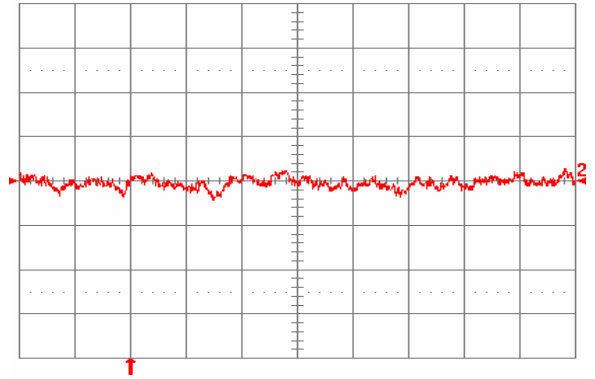

**Fig. 1.8V.14:** Test Setup for measuring input reflected ripple currents,  $i_c$  and  $i_s$ .
**Fig. 1.8V.1:** Available load current vs. ambient air temperature and airflow rates for SQ48T15018 converter with D height pins mounted vertically with  $V_{in} = 48\text{ V}$ , air flowing from pin 3 to pin 1, and maximum FET temperature  $\leq 120^\circ\text{C}$ .
**Fig. 1.8V.2:** Available load current vs. ambient air temperature and airflow rates for SQ48T15018 converter with D height pins mounted horizontally with  $V_{in} = 48\text{ V}$ , air flowing from pin 3 to pin 1, and maximum FET temperature  $\leq 120^\circ\text{C}$ .
**Fig. 1.8V.3:** Available load current vs. ambient air temperature and airflow rates for SQ48S15018 converter mounted vertically with  $V_{in} = 48$  V, air flowing from pin 3 to pin 1, and maximum FET temperature  $\leq 120$  °C.
**Fig. 1.8V.4:** Available load current vs. ambient air temperature and airflow rates for SQ48S15018 converter mounted horizontally with  $V_{in} = 48$  V, air flowing from pin 3 to pin 1, and maximum FET temperature  $\leq 120$  °C.
**Fig. 1.8V.5:** Efficiency vs. load current and input voltage for SQ48T/S15018 converter mounted vertically with air flowing from pin 3 to pin 1 at a rate of 300 LFM (1.5 m/s) and  $T_a = 25$  °C.
**Fig. 1.8V.6:** Efficiency vs. load current and ambient temperature for SQ48T/S15018 converter mounted vertically with  $V_{in} = 48$  V and air flowing from pin 3 to pin 1 at a rate of 200 LFM (1.0 m/s).
**Fig. 1.8V.7:** Power dissipation vs. load current and input voltage for SQ48T/S15018 converter mounted vertically with air flowing from pin 3 to pin 1 at a rate of 300 LFM (1.5 m/s) and  $T_a = 25^\circ\text{C}$ .
**Fig. 1.8V.8:** Power dissipation vs. load current and ambient temperature for SQ48T/S15018 converter mounted vertically with  $V_{in} = 48\text{ V}$  and air flowing from pin 3 to pin 1 at a rate of 200 LFM (1.0 m/s).
**Fig. 1.8V.9:** Turn-on transient at full rated load current (resistive) with no output capacitor at  $V_{in} = 48\text{ V}$ , triggered via ON/OFF pin. Top trace: ON/OFF signal (5 V/div.). Bottom trace: output voltage (1 V/div.). Time scale: 2 ms/div.
**Fig. 1.8V.10:** Turn-on transient at full rated load current (resistive) plus 10,000  $\mu\text{F}$  at  $V_{in} = 48\text{ V}$ , triggered via ON/OFF pin. Top trace: ON/OFF signal (5 V/div.). Bottom trace: output voltage (1 V/div.). Time scale: 2 ms/div.
**Fig. 1.8V.11:** Output voltage response to load current step-change (3.75 A – 7.5 A – 3.75 A) at  $V_{in} = 48$  V. Top trace: output voltage (100 mV/div.). Bottom trace: load current (5 A/div.). Current slew rate: 0.1 A/ $\mu$ s.  $C_o = 1$   $\mu$ F ceramic. Time scale: 0.2 ms/div.
**Fig. 1.8V.12:** Output voltage response to load current step-change (3.75 A – 7.5 A – 3.75 A) at  $V_{in} = 48$  V. Top trace: output voltage (100 mV/div.). Bottom trace: load current (5 A/div.). Current slew rate: 5 A/ $\mu$ s.  $C_o = 450$   $\mu$ F tantalum + 1  $\mu$ F ceramic. Time scale: 0.2 ms/div.
**Fig. 1.8V.13:** Output voltage ripple (20 mV/div.) at full rated load current into a resistive load with  $C_o = 10$   $\mu$ F tantalum + 1  $\mu$ F ceramic and  $V_{in} = 48$  V. Time scale: 1  $\mu$ s/div.
**Fig. 1.8V.15:** Input reflected ripple current,  $i_c$  (100 mA/div.), measured at input terminals at full rated load current and  $V_{in} = 48$  V. Refer to Fig. 1.8V.14 for test setup. Time scale: 1  $\mu$ s/div.
**Fig. 1.8V.16:** Input reflected ripple current,  $i_s$  (10 mA/div.), measured through 10  $\mu$ H at the source at full rated load current and  $V_{in} = 48$  V. Refer to Fig. 1.8V.14 for test setup. Time scale: 1  $\mu$ s/div.
**Fig. 1.8V.17:** Output voltage vs. load current showing current limit point and converter shutdown point. Input voltage has almost no effect on current limit characteristic.
**Fig. 1.8V.18:** Load current (top trace, 20 A/div., 20 ms/div.) into a 10 m $\Omega$  short circuit during restart, at  $V_{in} = 48$  V. Bottom trace (20 A/div., 1 ms/div.) is an expansion of the on-time portion of the top trace.